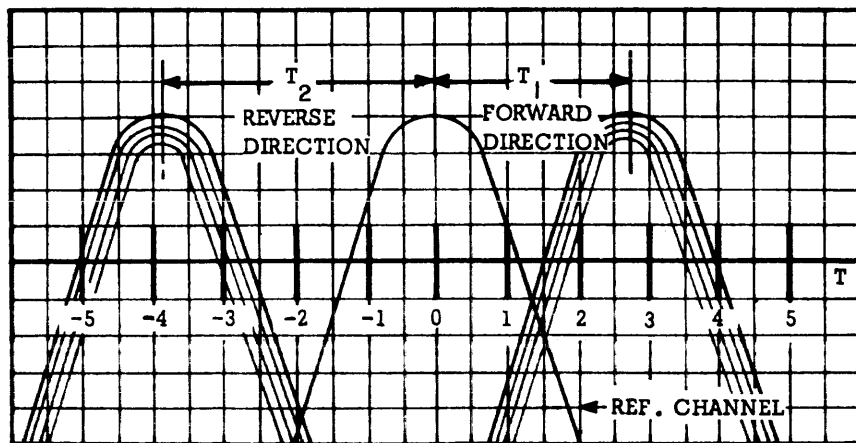

Figure 43. Checking Tape Tracking, Desired Waveform
4. Load the scratch tape and run tape in the forward direction under remote control (use off-line tester-tote, if available). Record  $T_1$  ( $\mu\text{sec}$ ). Run tape in the reverse direction and record  $T_2$ . (See Figure 43.) Since the read head azimuth angle can be in either direction, the actual phase relation between the reference channel and the other outside channel may be opposite to that depicted in Figure 43.